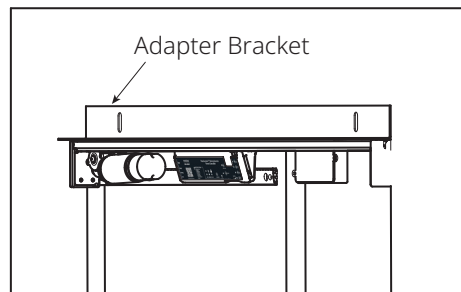

Figure 3: Overhead Mount/Pocket Door System with Adapter Bracket
- For applications that will not allow an under-header mount, a 90-degree wall-mounted adaptor bracket (AB-PSLIDE) may be used (Fig 3). Sold separately.